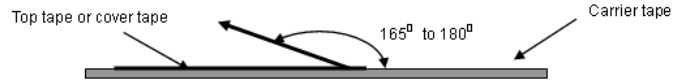

Fig. 9.1.3
- Peel-off angle: 165°~180°, refers to **Fig. 9.1.3**.